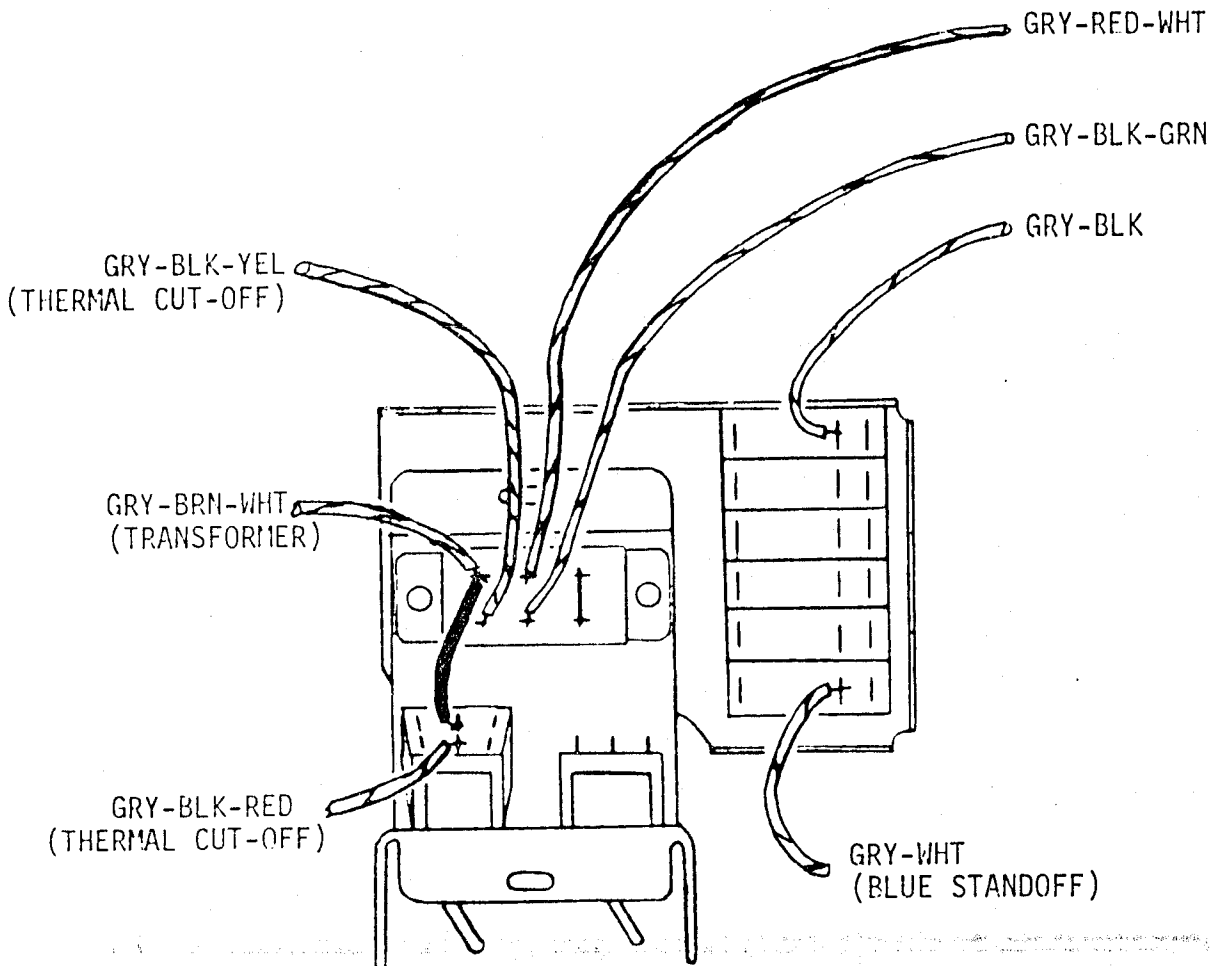

Fig. 2. POWER ON-OFF/AC-DC MODE Switch Assembly.
- () 7. Solder the wires removed from the old POWER switch assembly to the new POWER ON-OFF/AC-DC MODE switch assembly as shown in Fig. 2: